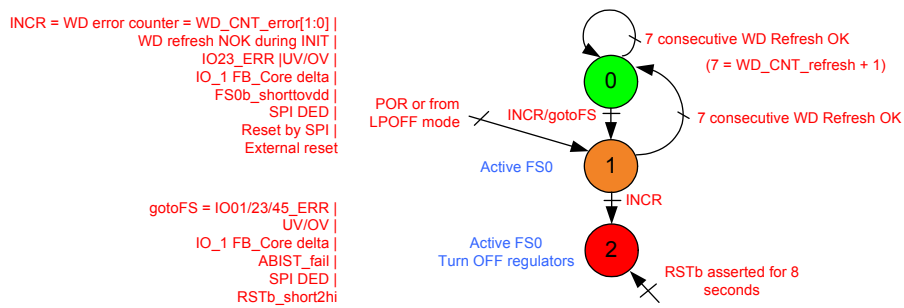

Figure 17. RSTB Error Counter(RSTB\_err\_FS = 1)
- RSTB\_err\_FS = 1 / Intermediate = 1; Final = 2 (Figure 17). When reset error counter reaches 2, the device goes into deep reset and fails.